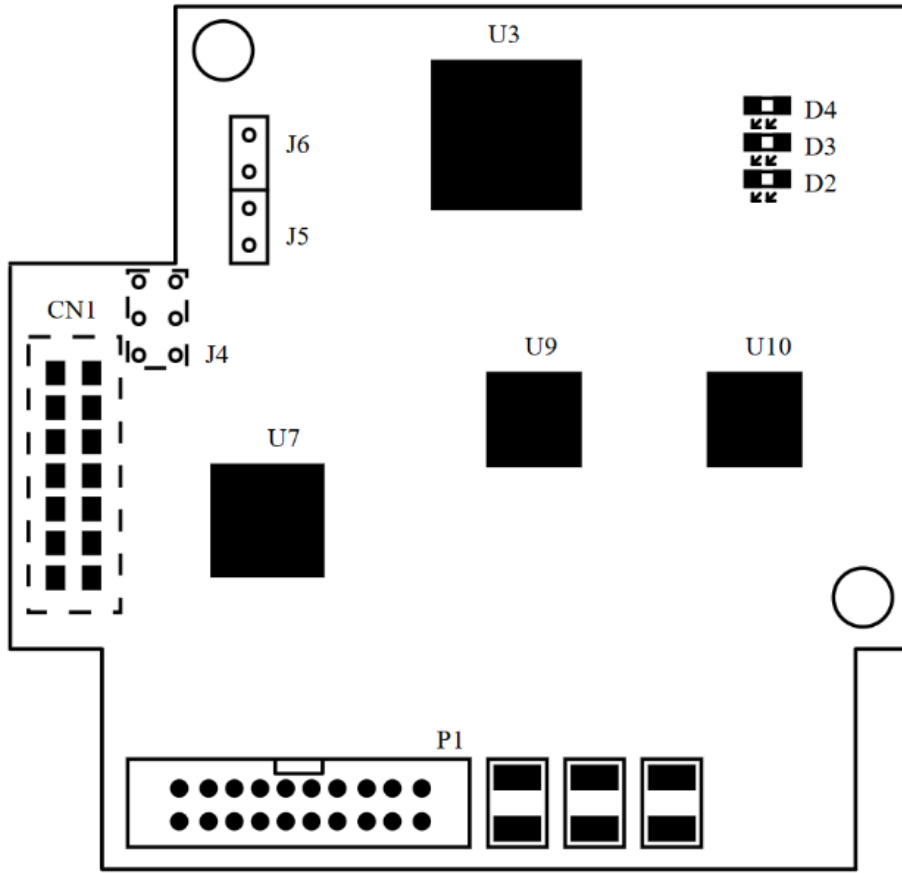
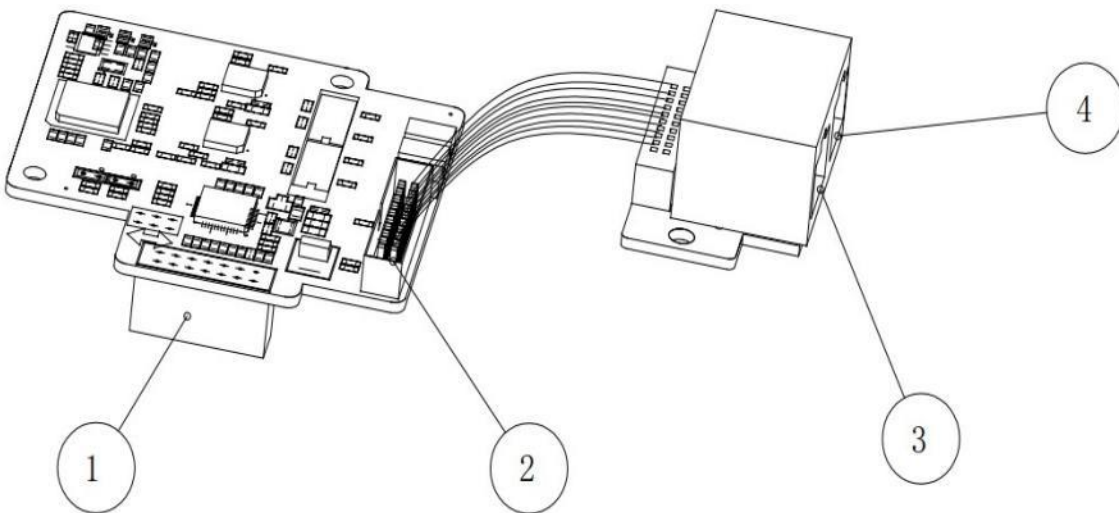

Figure 1-4 Interface layout
Figure 1-5 PD310EC1 Interface Schematics
- 1) EtherCAT communication card adopts standard RJ45 interface, and it can adopt line network topology and star network topology, and its electrical wiring diagram is shown in Fig. 1-4 and Fig. 1-5 respectively.
An EtherCAT communication card is configured with three LED lights to indicate different status of the communication card (see Figure 1-4 Interface layout of the expansion card). For details, see Table 1-3.